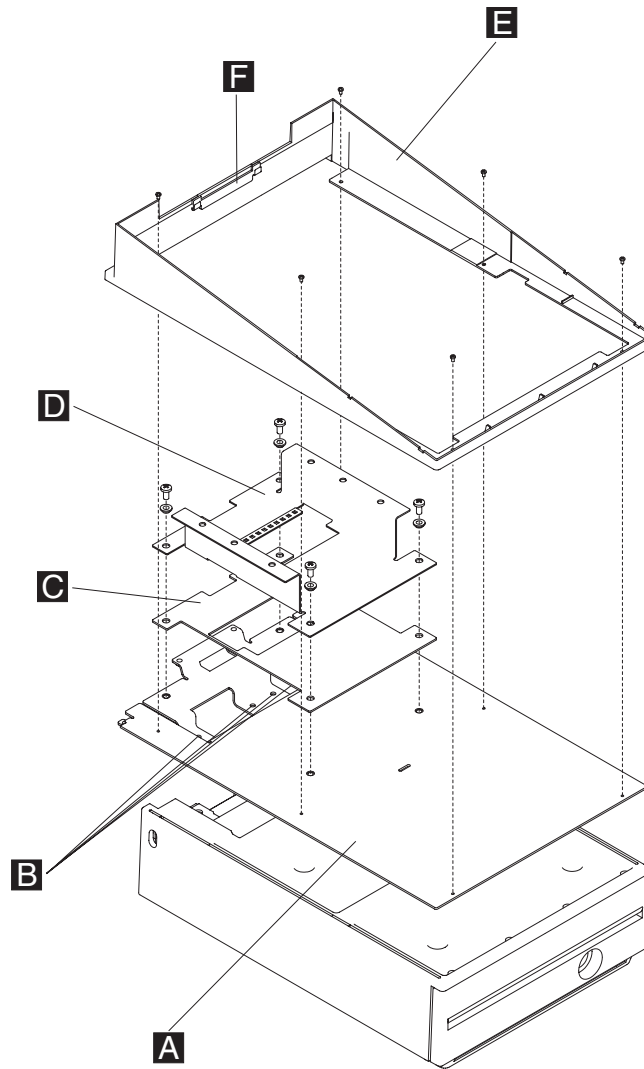

Figure 51. Removing the keyboard integration tray attached to cash drawer
- a. Remove the fence **E** by removing the six small screws, as shown in Figure 51.